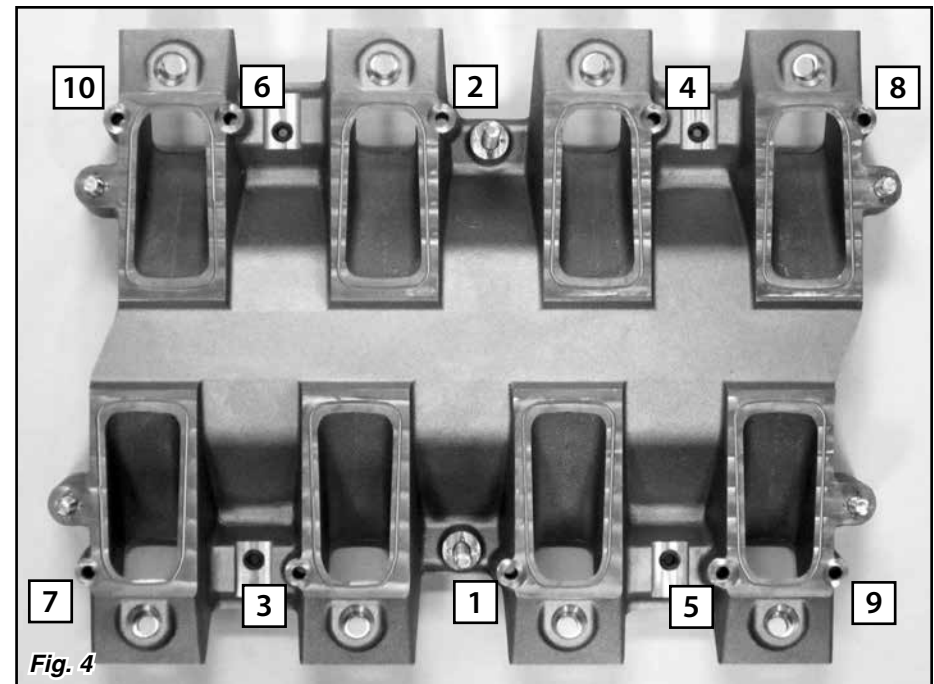

Fig. 4
Step 3: Apply a drop or two of engine oil to the threads of the M6-1.0 socket head lower manifold mounting bolts. Install the bolts through the lower manifold and thread them into the cylinder heads. Following the tightening sequence diagram in **Fig. 4**, snug the bolts down lightly, just until the O-rings are slightly compressed.
Step 4: Torque the lower manifold bolts in two steps. Following the sequence in **Fig. 4**, tighten all of the mounting bolts to 50 lb.-in. (4.2 lb.-ft.). Then, follow the sequence in **Fig. 4** again to tighten the bolts to 106 lb.-in. (8.8 lb.-ft.).